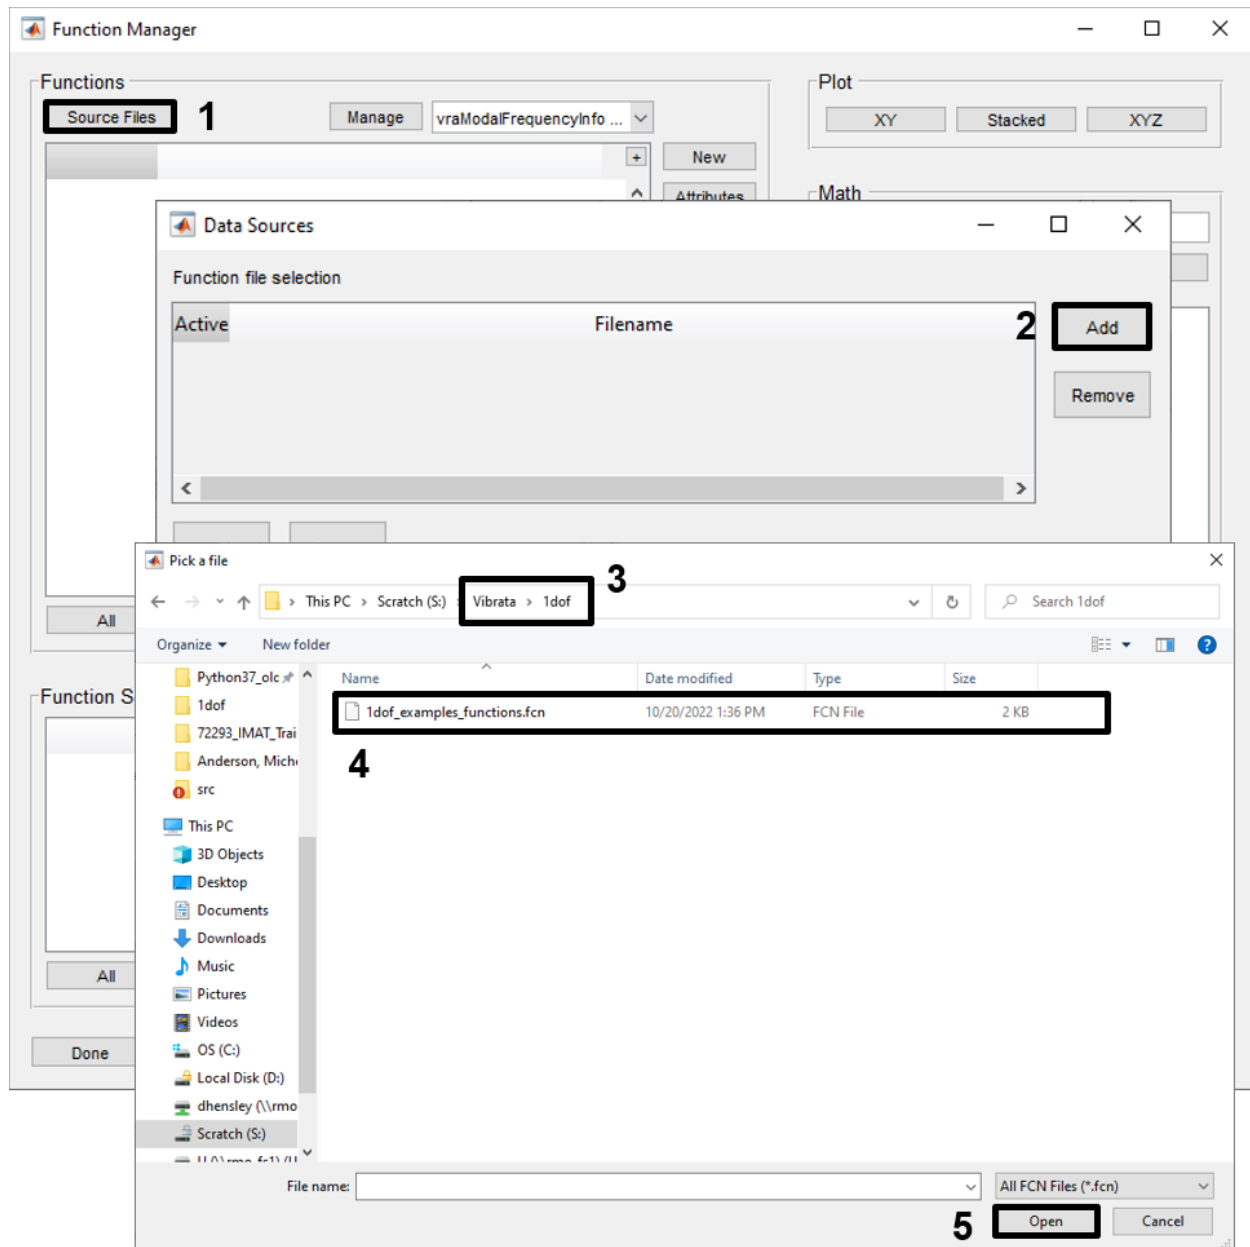

Figure 4-26. If necessary, reopen the file containing the excitation function from the 1dof example.
- a. In the Function Manager dialog, click the **Source Files** button and open the function file from the 1DOF example (Figure 4-26).